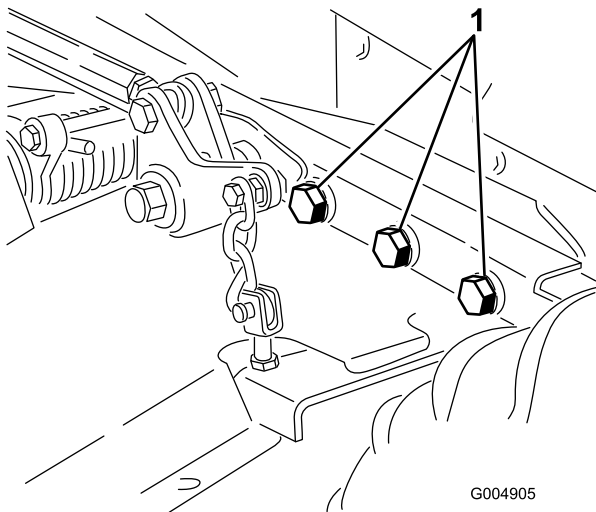

Figure 91
4. Check all fasteners for looseness and tighten them as necessary. Especially torque the 6 bolts securing the mower deck frame to the traction unit (Figure 91) to 359 N-m (265 ft-lb).